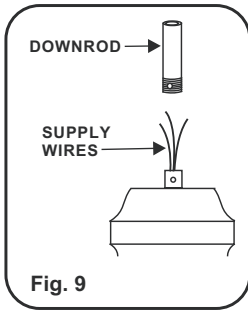

Fig. 9
Step 4. Carefully feed fan wires up through the downrod (Fig 9). Thread the rod into the coupling, next line up holes and replace lock pin and hitch pin. Tighten set screws.